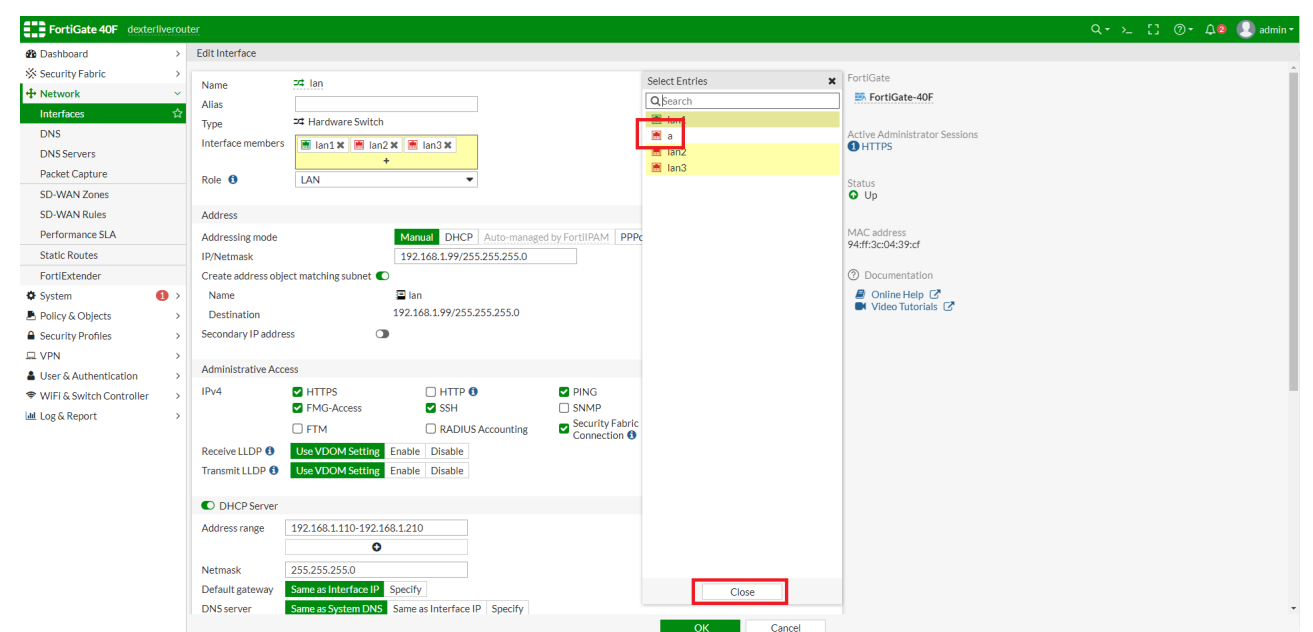

Figure 24
17. Select the fourth port ("a") from the list of ports. (Figure 24). Confirm your selection by selecting "Close".